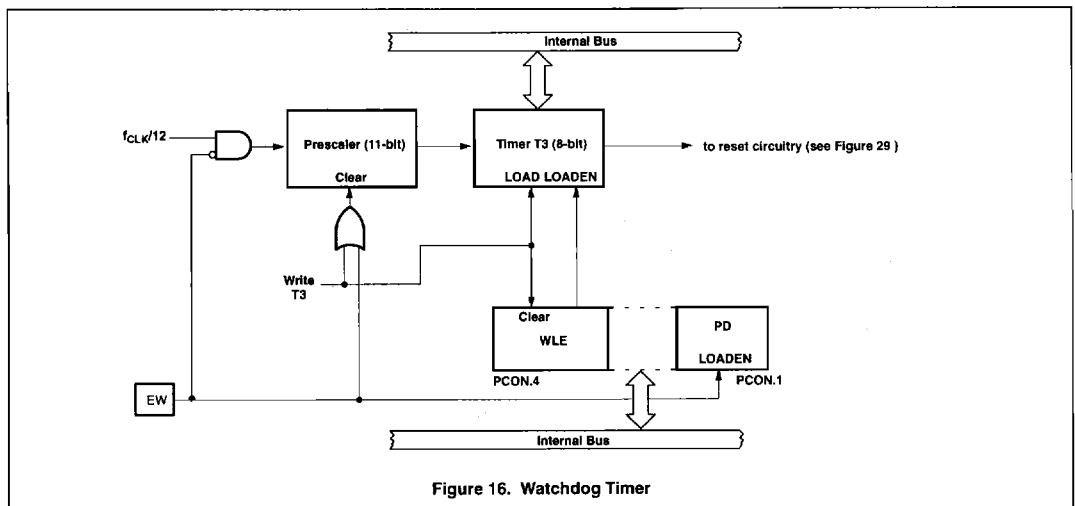

Figure 16. Watchdog Timer
1.7 Watchdog Timer (T3) (see Figure 16)